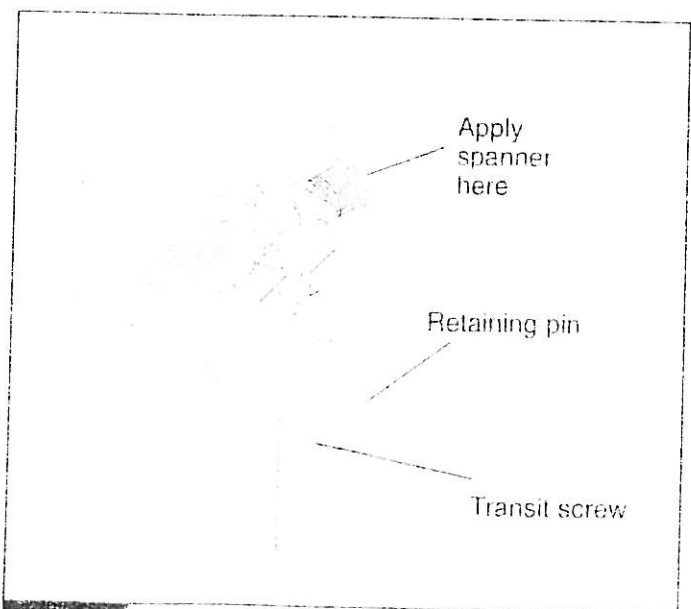

FIG 3
Take retaining pin out of Spring Anchor Bush with assistance of spanner on pulley (Figure 3). You now have tension on the door. Take out 2 transit screws from each upper weather strip. With door open insert 5 self tapping screws (No. 10 × 1/2") in slots down each side runner.
3. Wearing safety glasses and with door closed, insert the retaining pin into the spring assembly. (See Fig. 3)